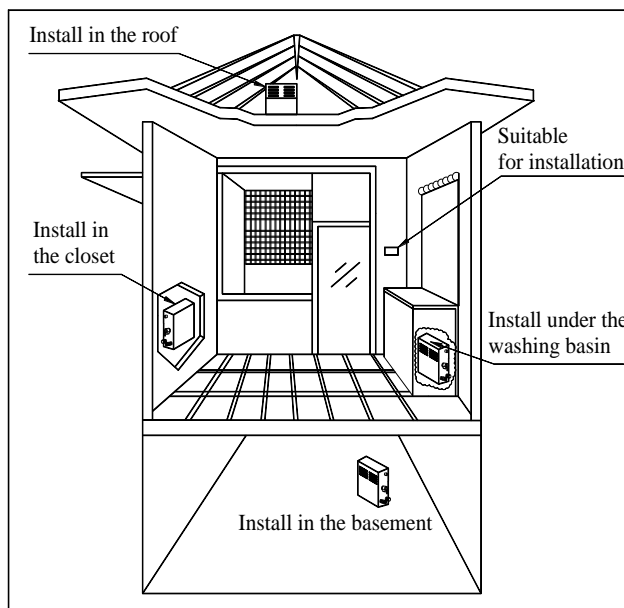

Figure 4
- The generator should be installed in a dry and well-ventilated place. It can be installed either on the wall or on the ground, but must be well fixed. Install the generator as close to steam room as possible, such as in the closet, under the washing basin or in the basement. (Refer to figure 4).